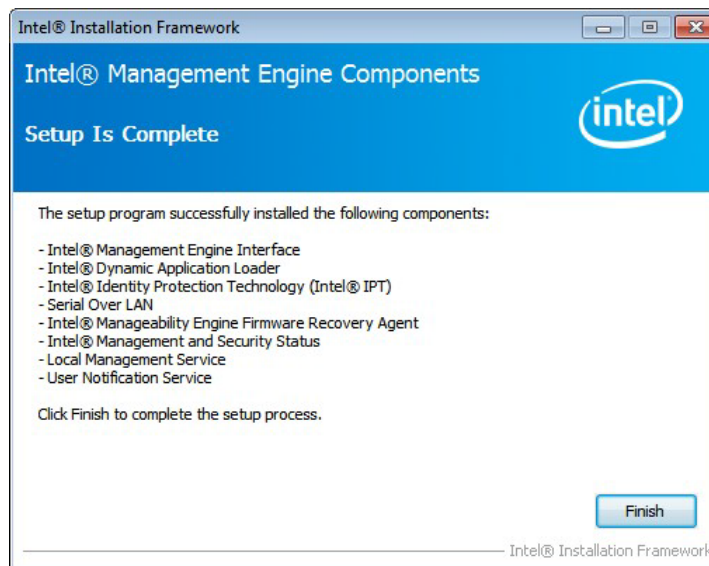

Figure 6-35: Intel® ME Driver Installation Finish Screen
Step 11: The **Finish** screen in **Figure 6-35** appears.